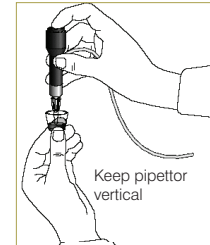

Figure D-4: Single beep—press and release pipettor button
Keep the pipettor vertical (upright) during pipetting to ensure that fluid is not drawn into the pipettor's plastic tubing (Figure D-4).
5. **Single Beep**—Press and release the button on top of the pipettor (Figure D-4). A single beep will signal the start of aspiration. The pipettor will automatically draw up the correct amount of sample for the tests. Keep the tip in the sample while waiting for the next beep signal.